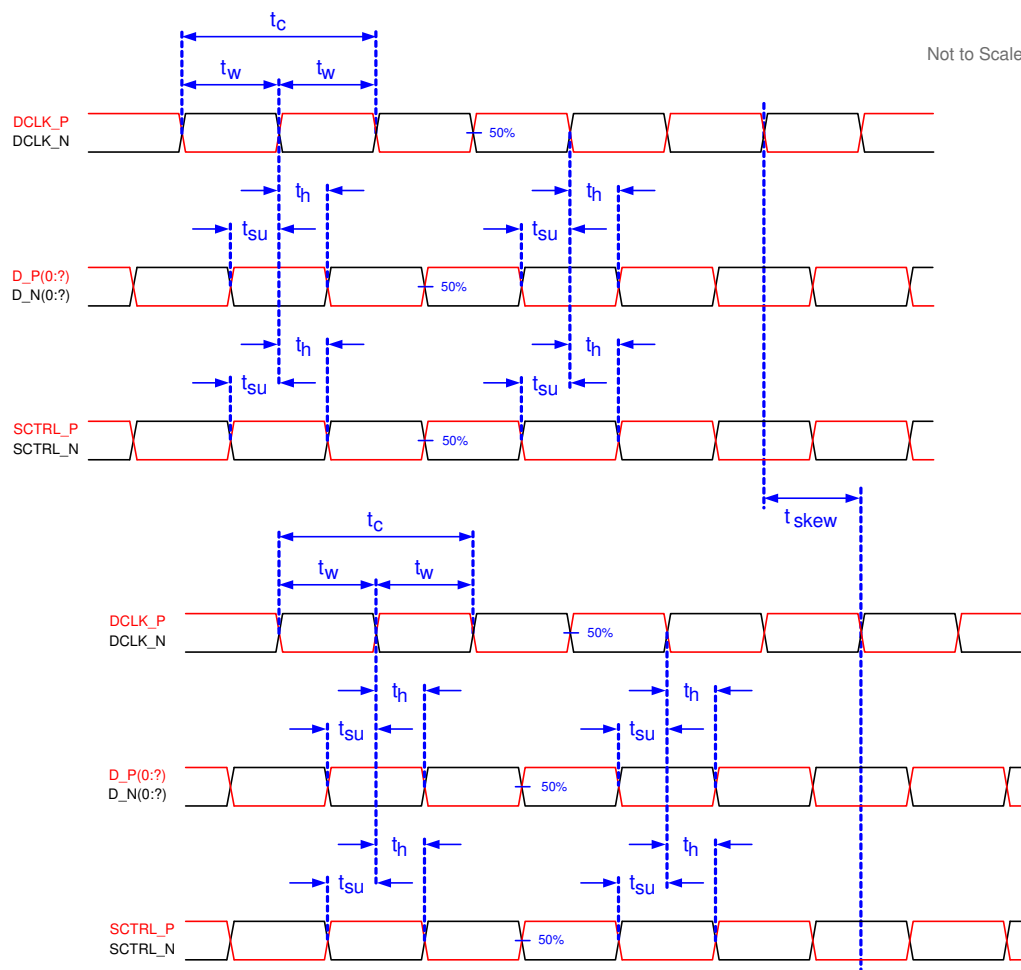

図 5-6. Timing Requirements
- (7) See LVDS Timing Requirements in セクション 5.8 and 図 5-6.
(1) See 図 5-6 for timing requirements for LVDS.
(2) Channel A (Bus A) includes the following LVDS pairs: DCLK_AN and DCLK_AP, SCTRL_AN and SCTRL_AP, D_AN(15:0) and D_AP(15:0).
(3) Channel B (Bus B) includes the following LVDS pairs: DCLK_BN and DCLK_BP, SCTRL_BN and SCTRL_BP, D_BN(15:0) and D_BP(15:0).